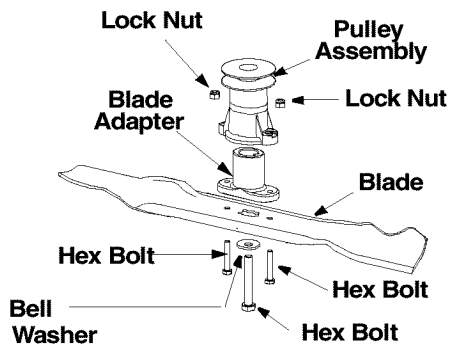

Figure 12
- Remove the bolt and bell washer which hold the blade-pulley assembly to the engine crankshaft. See Figure 12 .
- Remove the two bolts and lock nuts from the blade assembly. See Figure 12 .
- Install the blade adapter on the pulley with the “star” away from the pulley. See Figure 12 .